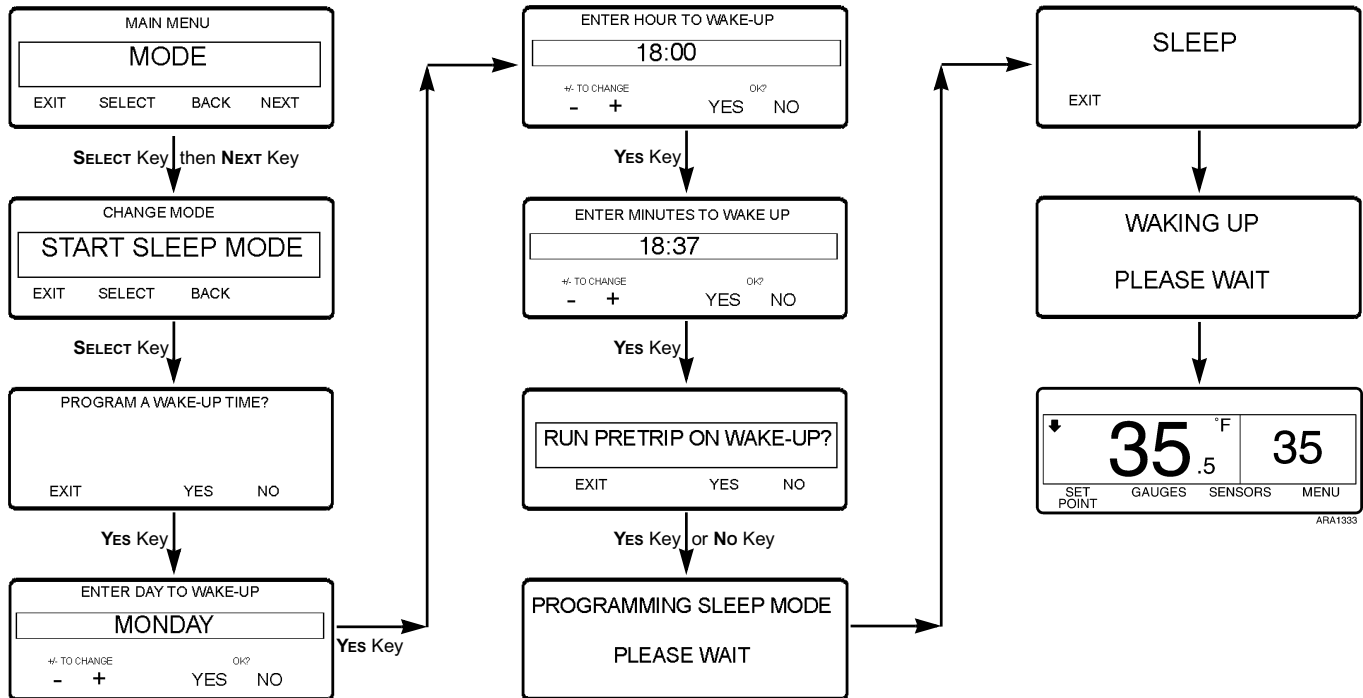

Figure 82: Selecting Sleep Mode Screen Sequence
- Press the **NEXT** soft key until the Mode Menu appears. See Figure 82.